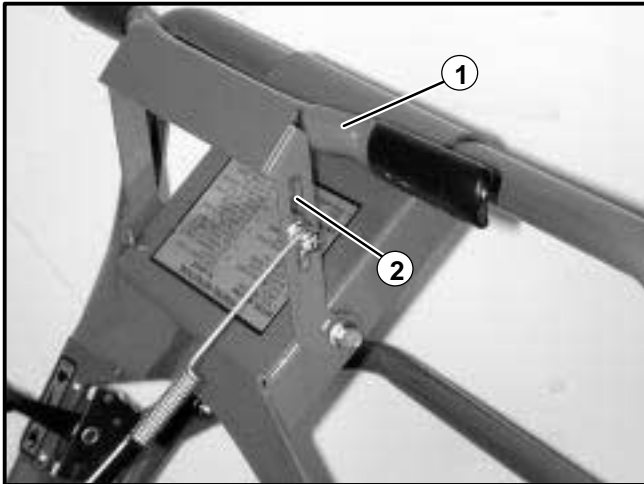

Figure 5
1. Pull the clutch control handle back and down and make sure the idler engages the belt. See Figure 5.
3. If adjustment is necessary, loosen the nut on the clutch spring hardware and adjust its position in the slot of the clutch lever. See Figure 5.